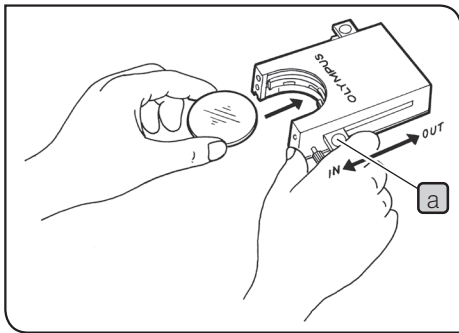

Fig.14
- Insert a filter in the U-FC filter cassette, attach it on the filter mount and engage it in the light path by sliding the filter level. (Fig.14)
#### Using the filter cassette (Figs.14 to 16)
- 2 Slide lever **a** to the IN position. Make sure that it clicks securely into place. (Fig.14)
- 3 Holding the lever in the position shown in Fig.14, put the filter into the cassette by inserting it in the direction indicated by the arrow.